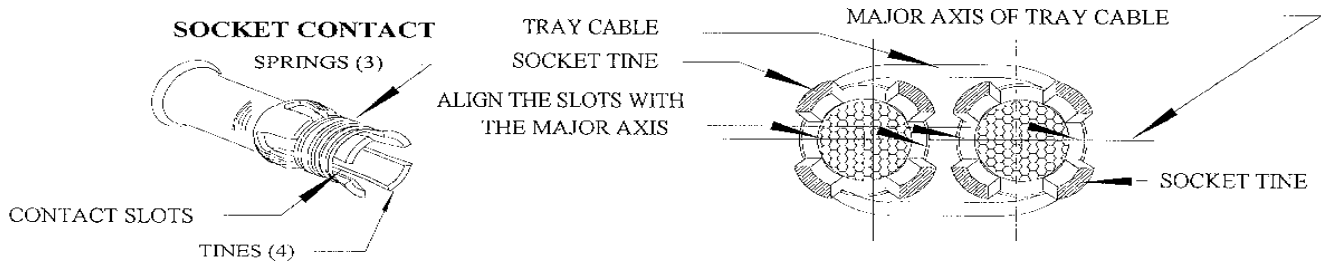

Figure 1 – Alignment of Contact Slots with the Major Axis of Tray Cable
- 4) For socket contacts, position the crimp barrel of the color coded socket contact onto the conductor so that the four slots in the socket contact are aligned with the major axis of the tray cable. See Figure 1. For pin contacts, position the crimp barrel of the color coded pin contact onto the conductor.